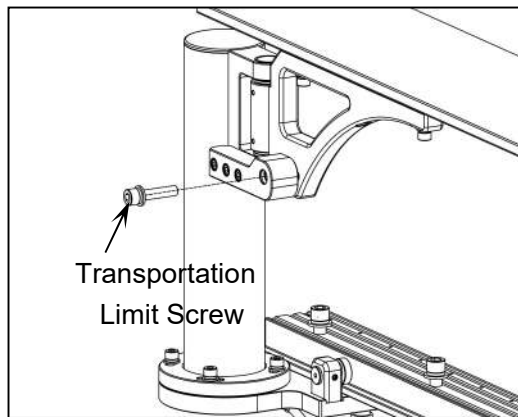

Fig. 10
3. As shown in **Fig. 10**, remove the pre-installed transportation limit screw, then rotate the cantilever arm away from the lock block for locking handle installation.